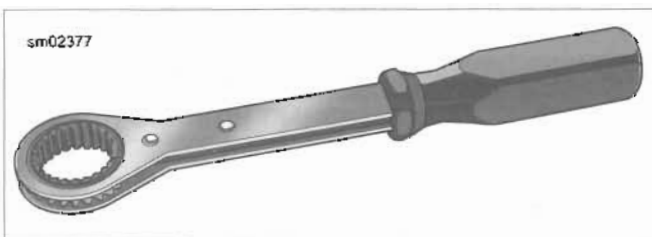

Figure 3-19. Crankshaft Rotating Wrench
- c. See Figure 3-19. **With engine mounted in engine stand:** Install CRANKSHAFT ROTATING WRENCH (Part No. HD-48283) on sprocket shaft and rotate counterclockwise until the base circle is found.